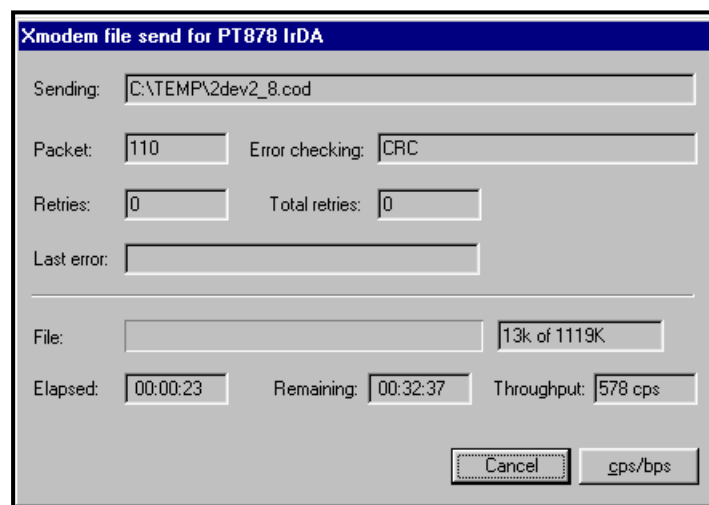

Figure 72: File Transmission Window
5. Click *Send*. For a successful transfer, the PC window appears similar to *Figure 72*, while the PM880 screen displays the program ID, size, load address and a count of blocks being loaded.